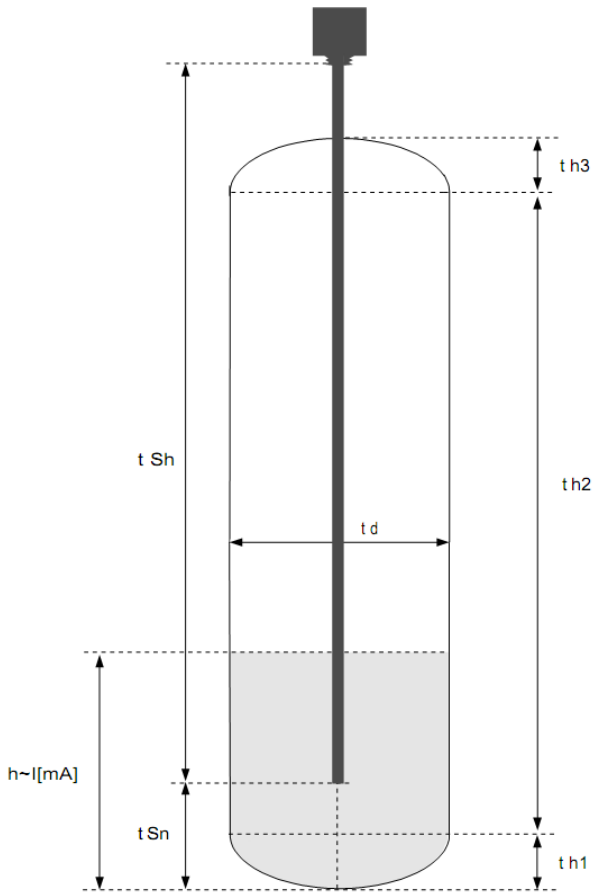
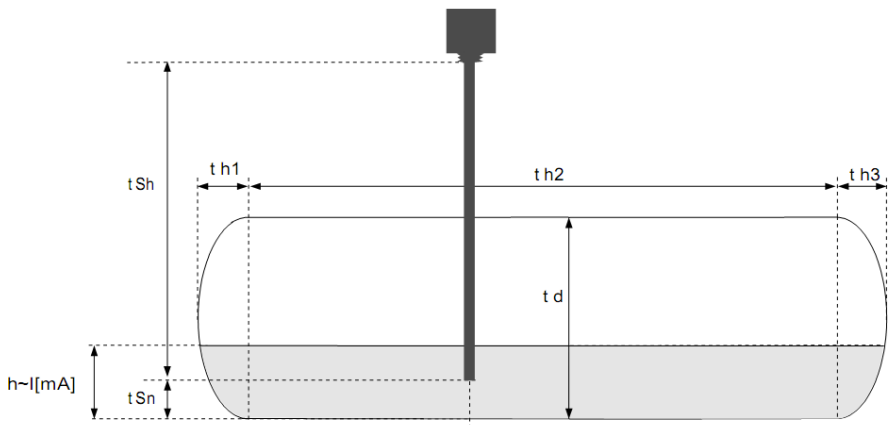

Figure 6.1. Parameters of cylindrical tank in vertical position
Figure 6.2. Parameters of cylindrical tank in horizontal position
„t h1”, „t h2”, „t h3”, „t d” - the parameters defining shape of cylindrical tank (Figure 6.1 and Figure 6.2).
- „t Sn”, „t Sh” - parameters defining the length and position of the sensor used to measure level of liquids, gases or solids in the tank (Figure 6.1, 6.2).